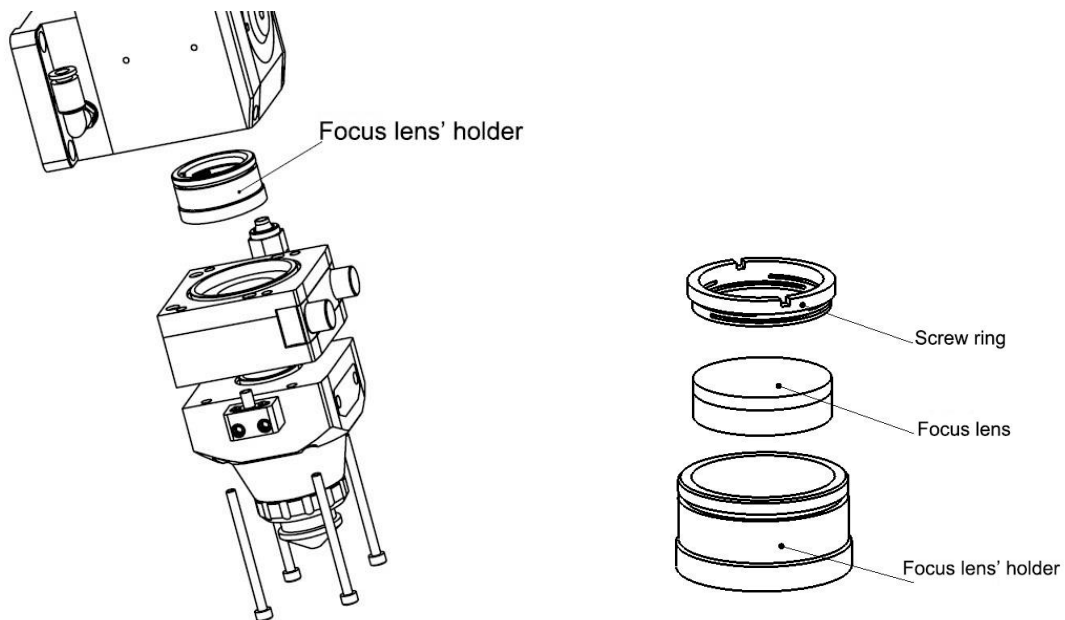

Figure 14. Focus lens with lens' holder.
(1) Disassemble the cutting head and clean up all the dust on the surface of the head in a clean place;
(2) Loosen all the screws of the focus lens unit showed in figure 14 by hexagonal screw driver in 4mm, and kindly suggest you use **masking tape** to cover the part connecting with focus lens for preventing dust coming inside;
(3) Take out of the focus lens with lens' holder by optics resemble tools and then take out of the screw ring and focus lens by the same tool;
(4) Clean or change the focus lens;